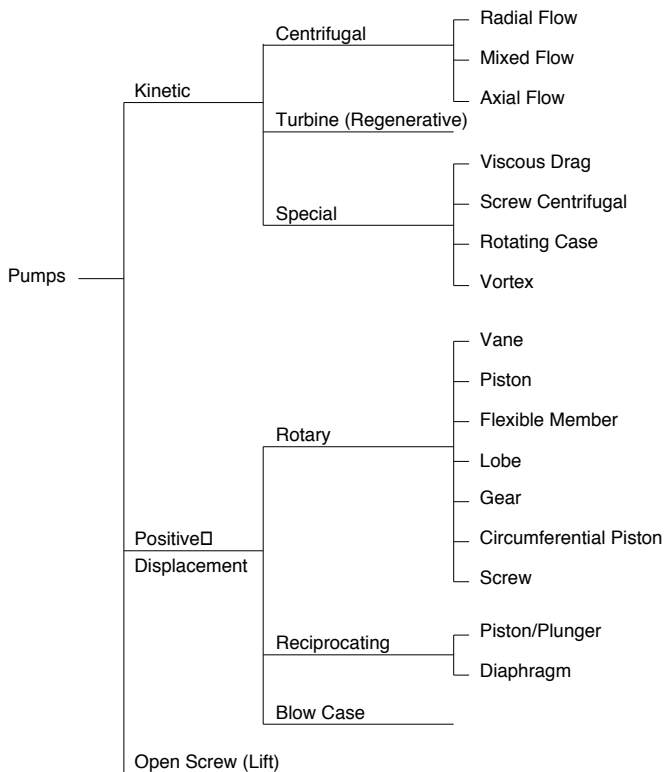

FIGURE 1. Classification of Pumps
- There are numerous classes and categories of pumps due to the wide variation of processes and the distinct requirements of each application. Figure 1 illustrates the classes, categories, and types of pumps utilized in the world today.